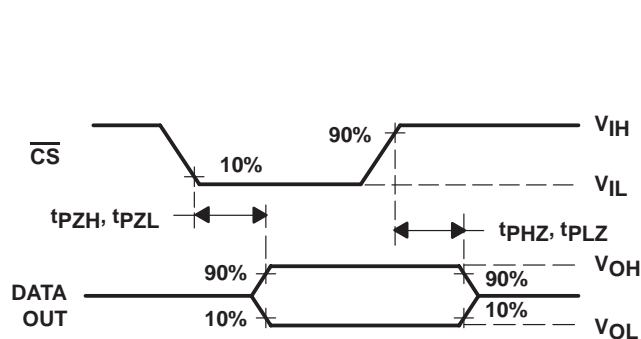

Figure 8. DATA OUT to Hi-Z Voltage Waveforms
10. I/O CLK period =  $1/(\text{I/O CLK frequency})$  (see Figure 8).